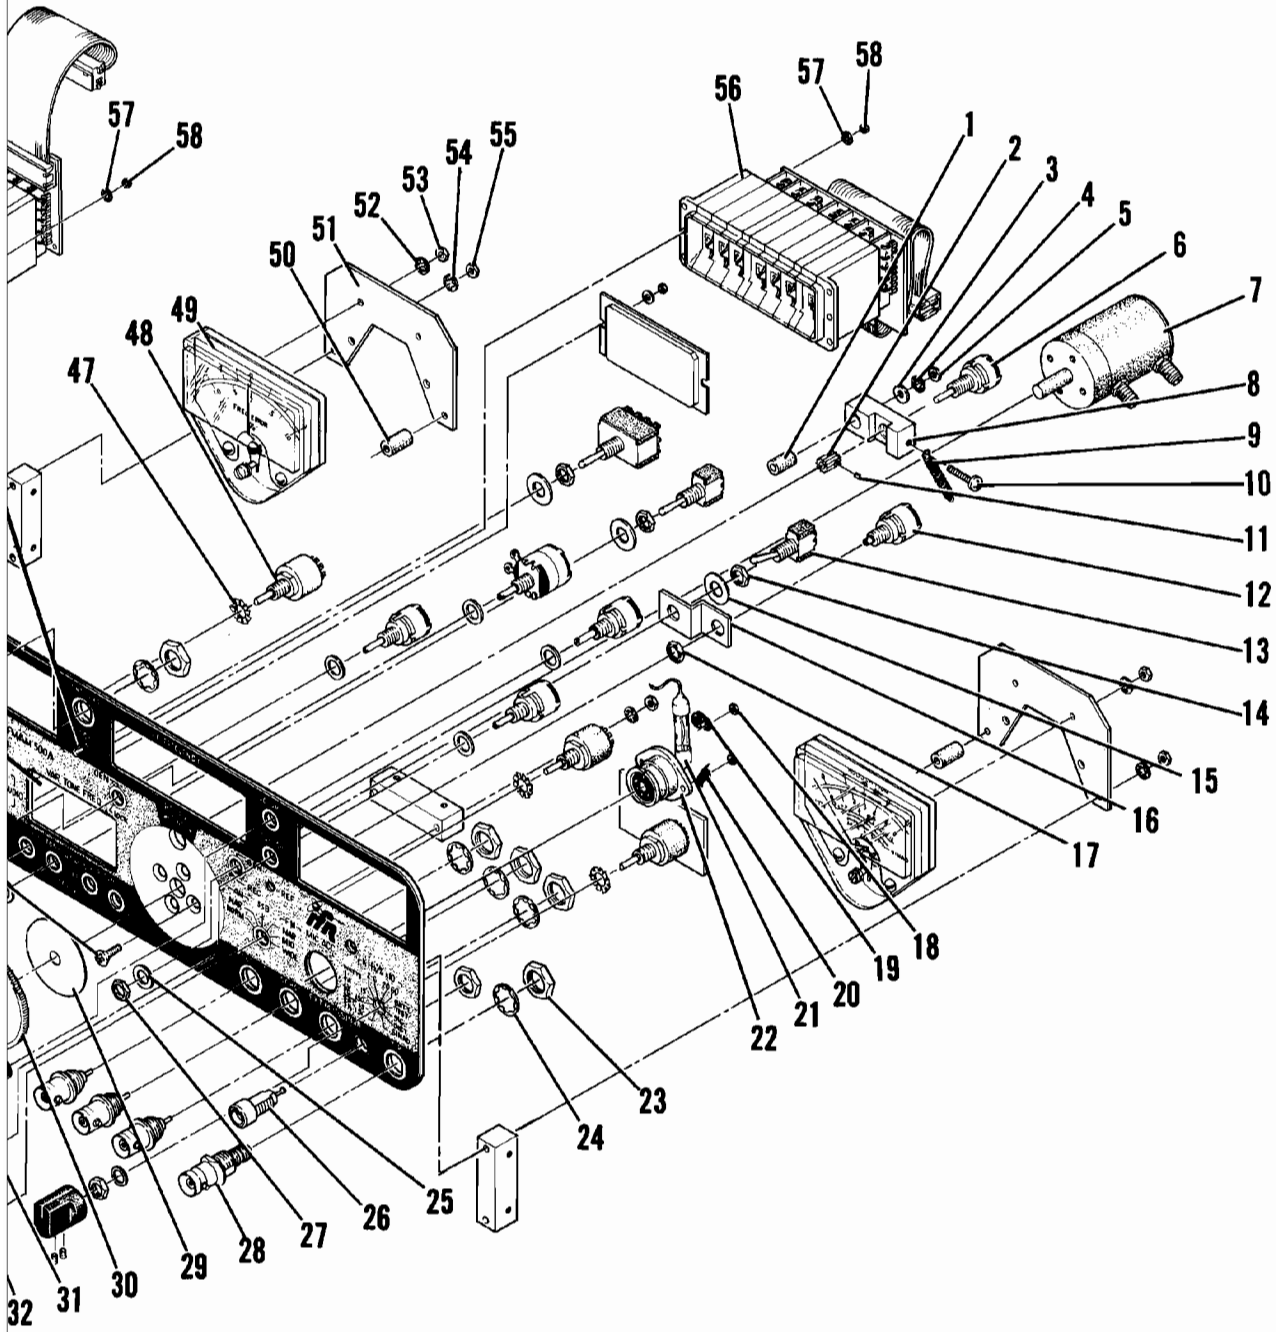

Figure 6-8 Front Panel Assembly
3. Remove one screw (37) securing each side of chassis to Front Panel (35).
4. Slide Front Panel (35) out of chassis (33) and disengage ribbon cable connectors from Mother Board (39).
5. Disconnect semi-rigid coaxes from T/R connector (Figure 6-8, Item 26) and step attenuator (Figure 6-8, Item 7).
6. Identify and unsolder two wires (in wrapped two-wire bundle running to chassis) from Power Switch (34).
B. Disassembly (Figure 6-8)
1. Remove MIC/ACC Connector (22).
- a. On FM/AM-500A only, unsolder fuse (21) from MIC/ACC Connector (22).
- b. Tag and unsolder leads to connector (22).
- c. Remove two nuts (18), one terminal lug (19) and one lock washer (20), then withdraw connector (22) from Front Panel (46).
2. Remove BNC (28) and Generate Amplifier power (26) connectors.
#### 6-3-1 RF LEVEL ATTENUATOR (Figure 6-8)